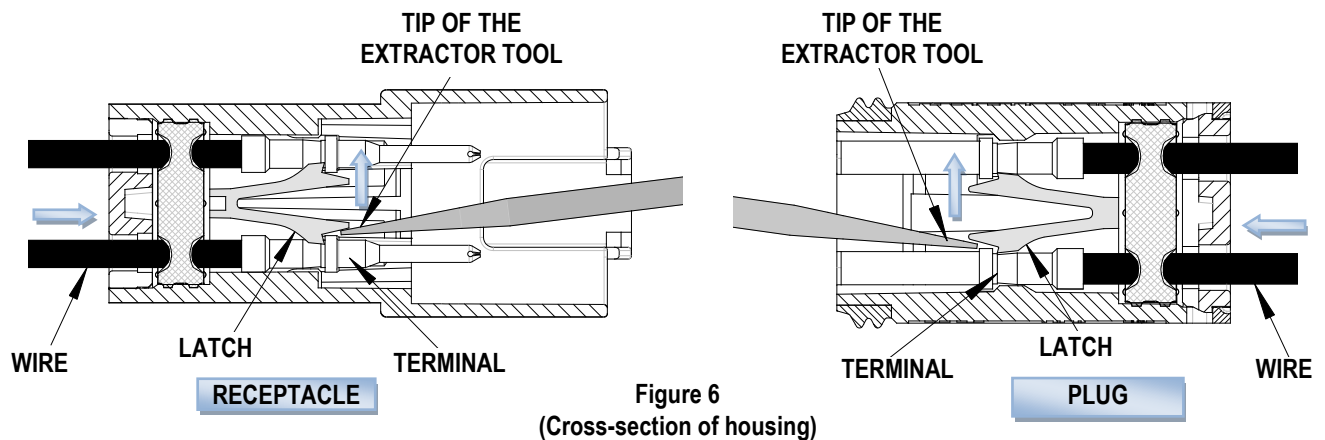

Figure 6
2. Place the blade of the tool in the housing so it engages the latch for the terminal to be removed. See Figure 6.